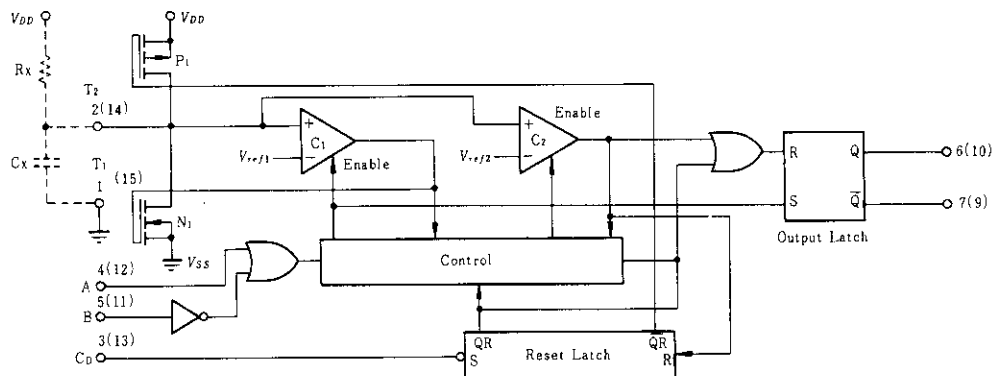

Fig.1 Logic Diagram
The block diagram of the HD14538B is shown in Figure 1, with circuit operation following. As shown in Figures 1 and 2 before an input trigger occurs, the monostable is in the quiescent state with the Q output low, and the timing capacitor Cx completely charged to  $V_{DD}$ . When the trigger input A goes from  $V_{SS}$  to  $V_{DD}$  (while inputs B and  $C_D$  are held to  $V_{DD}$ ) a valid trigger is recognized, which turns on comparator C1 and N-Channel transistor N1 ①.